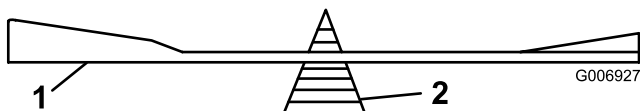

Figure 36
2. Check the balance of each blade by putting it on a blade balancer (Figure 36). If the blade stays in a horizontal position, the blade is balanced and can be used. If the blade is not balanced, file some metal off of the back side of the blade. Repeat this step until the blade is balanced.